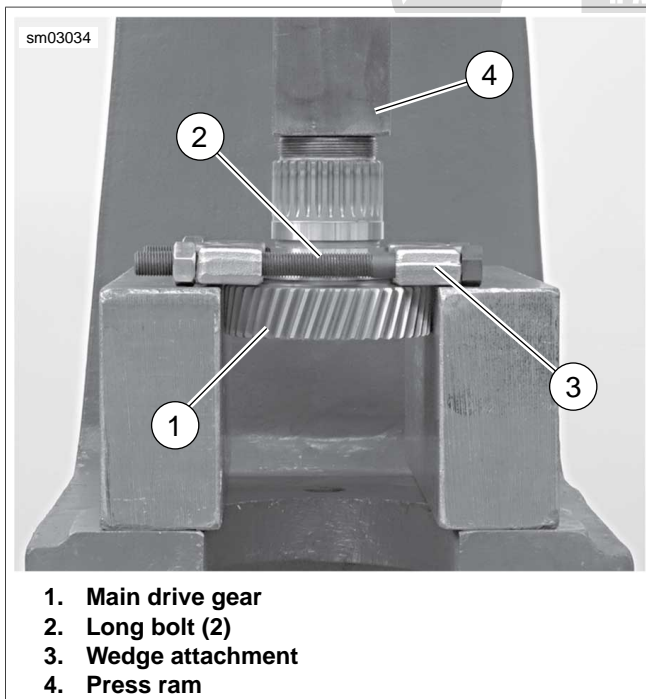

Figure 6-35. Removing Inner Bearing Race From Main Drive Gear
- See Figure 6-35. When the main drive gear is removed, a portion of the bearing inner race remains attached to the main drive gear. If the main drive gear is to be re-used, this inner race must be removed first.
10. See Figure 6-35. Use WEDGE ATTACHMENT (Part No. HD-95637-46B) and LONG BOLTS (Part No. HD-95637-10) to remove inner race from main drive gear.